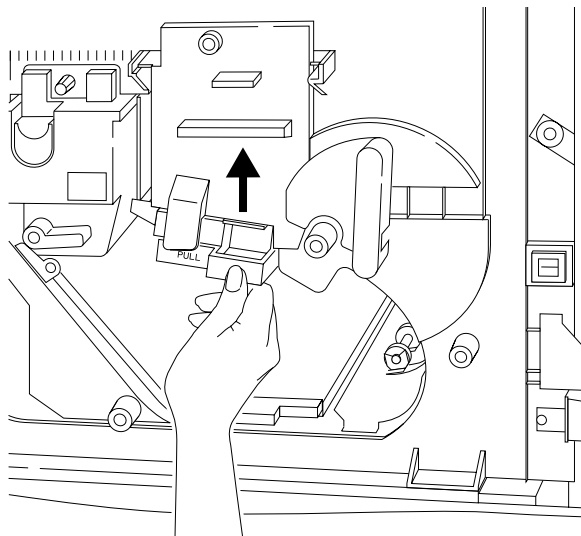

Figure 3-42 Replacing Transfer Assembly
10. Raise the Transfer Guide until it latches into position, as shown in Figure 3-42, and close the door.